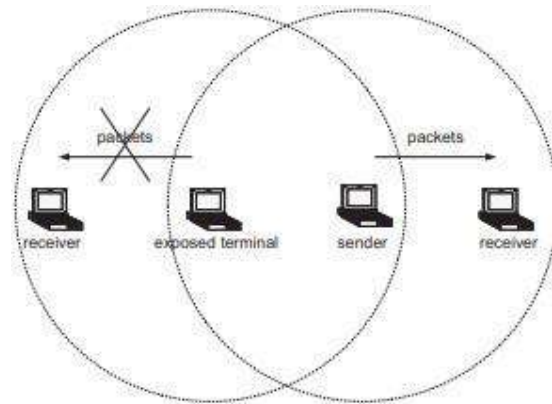

Figure 1.3 Exposed Terminal Problem
- **Exposed Terminals Problem:** The nodes that are in the transmission range of the sender of an on-going session, are prevented from making a transmission. The exposed nodes should be allowed to transmit in a controlled fashion without causing collision to the on-going data transfer. (Figure 1.3)